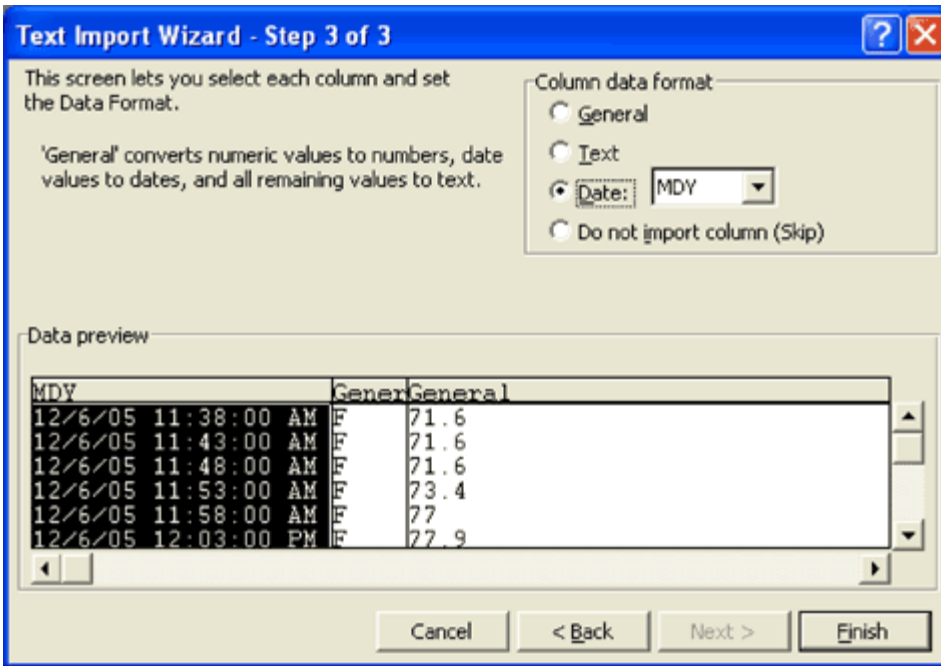

Figure 6. It is important that you select the correct date format, or your data will not import correctly.
17. From the "Column data format" window, check the "Date:" button and select the proper format. Then select the "Finish" button (Figure 6).